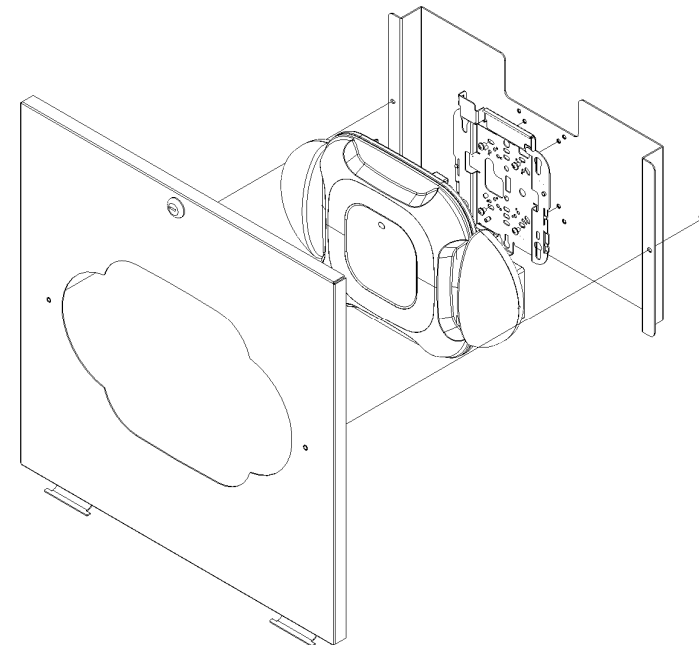

Figure 6
Step 5 – To install the Cisco AP, place the enclosure's door on a flat work surface. Remove the mounting plate from the door by removing the two (2) thumb nuts that attach the mounting plate. Retain the nuts (Ref. Figure 6).
Step 8 – Place the slotted holes in the mounting plate over the studs located on the bottom side of the door and secure it in place by installing the two (2) thumb nuts previously removed (*Ref. Figure 6*).